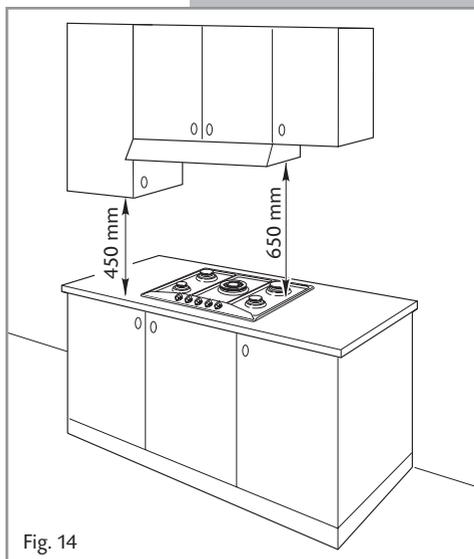

Fig. 14
- There must be a distance of at least 650mm between the hob and any wall cupboard or extractor hood positioned immediately above (see fig. 14).